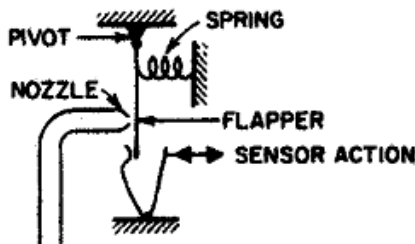
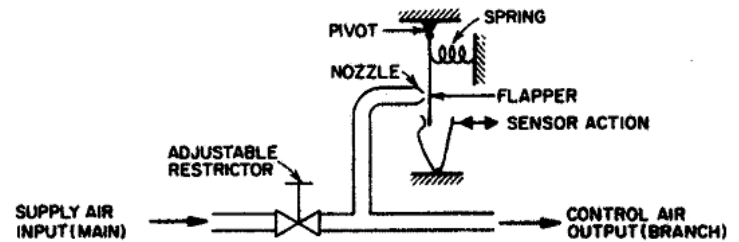

Fig. 2-2 Nozzle Flapper assemblies
Fig.2-3 Nozzle Flapper assemblies with Restrictor
- **Nozzle-Flapper Assembly:** (Fig. 2-2) is the basic mechanism for controlling air pressure to the branch line. Air supply to the nozzle escapes between the nozzle opening and the flapper. At a given air supply pressure, the amount of air escaping is determined by how tightly the flapper is held against the nozzle by sensing element such as bimetel. The regulated branch line pressure, a restrictor is added to the nozzle-flapper assembly (Fig. 2-3)